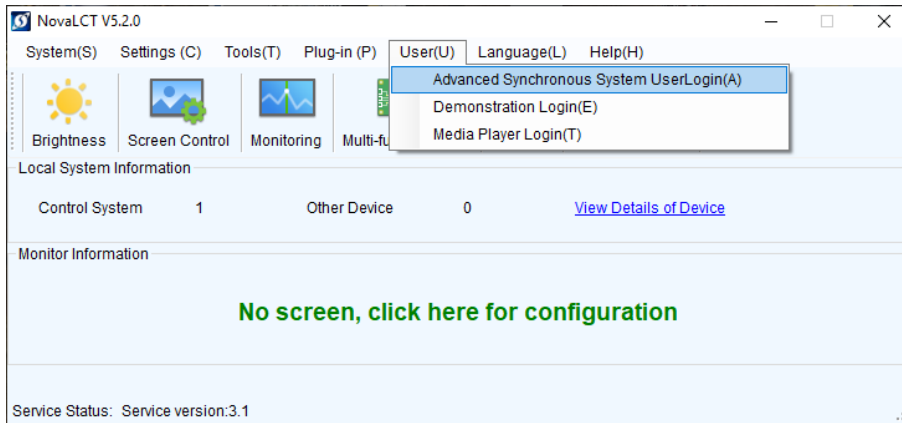

Figure 69: Advanced User Login
Step 2) Click the **User(U)** register and select **Advanced Synchronous System User Login(A)** (see Figure 69).